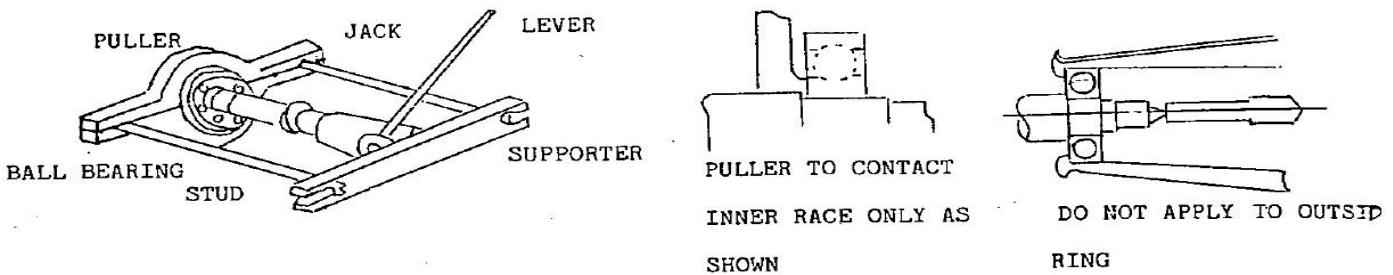

Fig. 11 Bearing puller
3.8.2 When removing a bearing, always use an approved bearing puller. See Fig.11